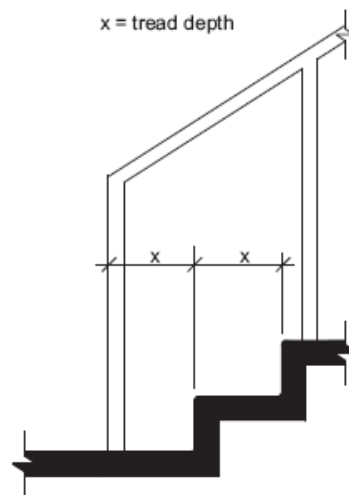

FIG. 505.10.3
- Provide bottom handrail extension equal to one tread depth (fig. 505.10.3 Accessible and Usable Buildings and Facilities ICC A117.1-2009)